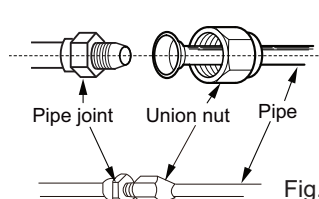
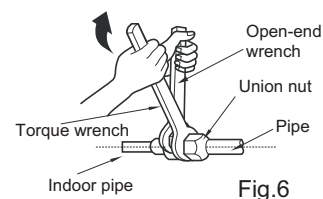

Fig.5
Fig.6
(1) Aim the pipe joint at the corresponding bellmouth.(As show in Fig.5)
(2) Pretightening the union nut with hand.
(3) Adjust the torque force by referring to the following sheet. Place the open-end wrench on the pipe joint and place the torque wrench on the union nut. Tighten the union nut with torque wrench.(As show in Fig.6)